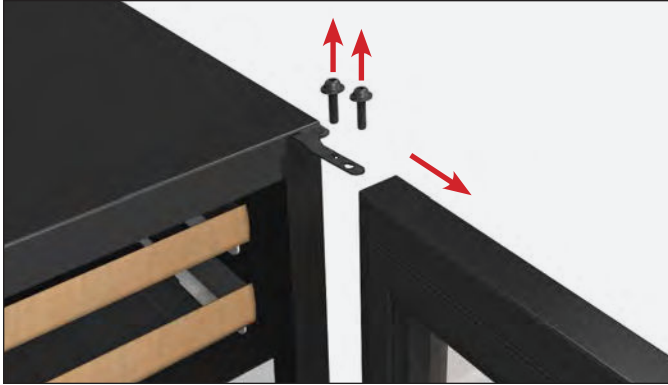

FIG. 2. Remove the hinge bolts from top and bottom hinge
3. Remove the door from the unit. Leave the hinges installed on the unit. See fig. 2.